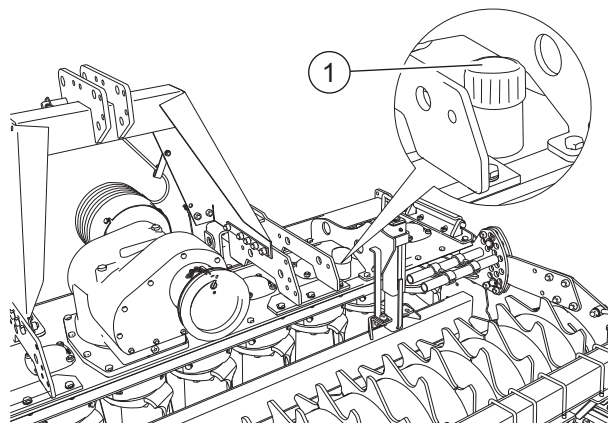

FIG. 40
Loosen the oil filler cap on the trough (1, "Fig. 40").
- Loosen the oil filler cap (“Fig. 40”).
- Tighten the oil drain plug (3).